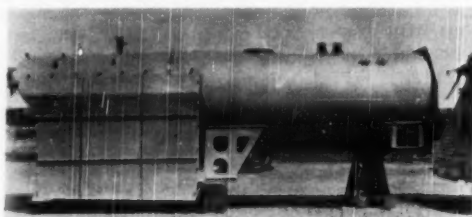

FIG. 8 BOILER, LEADER CLASS
**All-Welded Boilers.** The boiler has no stayed water spaces, so a major cause of repair has been eliminated. The boiler throughout is of welded construction, Fig. 8. No rivets are used except to fasten one stiffening plate in position which carries the longitudinal stays in the firebox back plate. All seatings, which are welded in position, are forgings made of sufficient thickness to replace the usual stiffening plate.